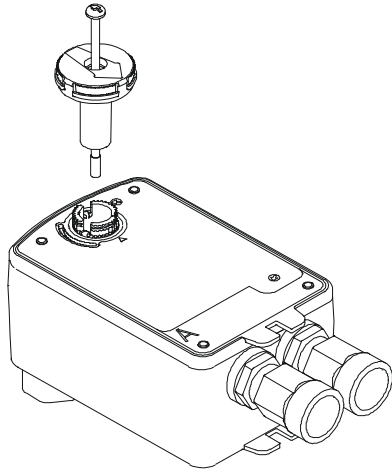

Figure 11: Installing the Fixed Pointer
5. Insert fixed pointer and M4x0.7x83 mm long screw into the Side A actuator hub (Figure 11). Direct the arrow on the pointer to 100%.